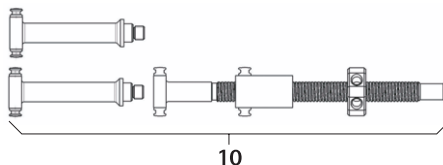

Fig. 15
- Montar o fuso distractor **10**, ver Fig. 15.